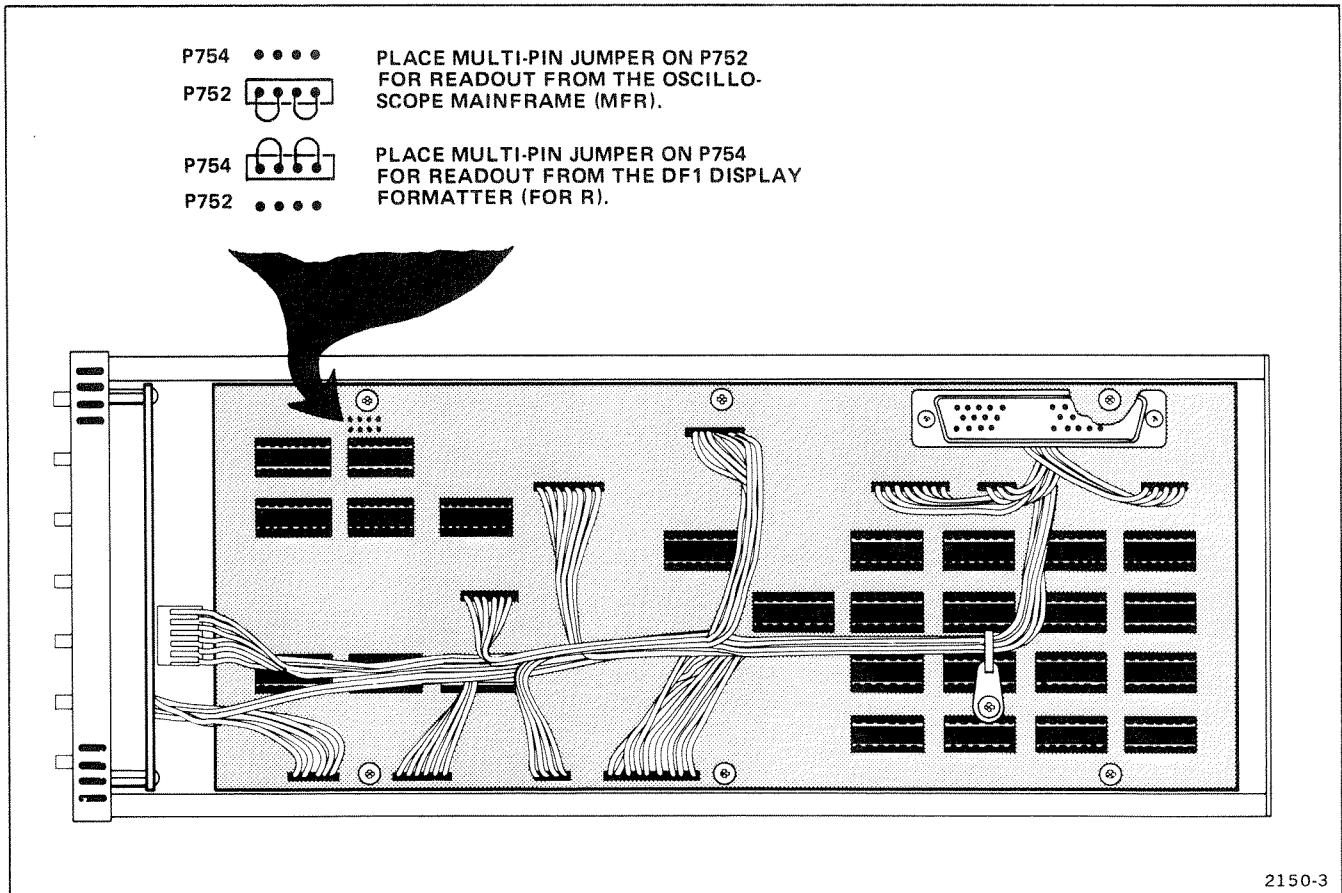

Figure 4-3. Location of readout source multi-pin jumper.
- a. Connect the DF1 Readout Source multi-pin jumper (internal) to display the formatter readout (FOR R). Refer to Figure 4-3.
g. Connect the DF1 Readout Source multi-pin jumper (internal) to display mainframe readout (MFR). Refer to Figure 4-3.
a. Connect the DF1 Readout Source multi-pin jumper (internal) to display the mainframe readout (MFR). Refer to Figure 4-3.
b. Set the System Test Fixture ADDRESS switches to 0098, and DATA switch number 0 to HI (1).
d. Set the System Test Fixture ADDRESS switches to 00A8. Set DATA switches: number 3 to HI (1), number 1 to HI (1), and number 0 to LO (0).
- a. Connect the DF1 Readout Source multi-pin jumper (internal) to display the mainframe readout (MFR). Refer to Figure 4-3.
- b. Set the System Test Fixture ADDRESS switches to 0098, and DATA switch number 0 to HI (1).
- d. Set the System Test Fixture ADDRESS switches to 00A8. Set the DATA switches: number 3 to HI (1), number 1 to HI (1), and number 0 to LO (0).